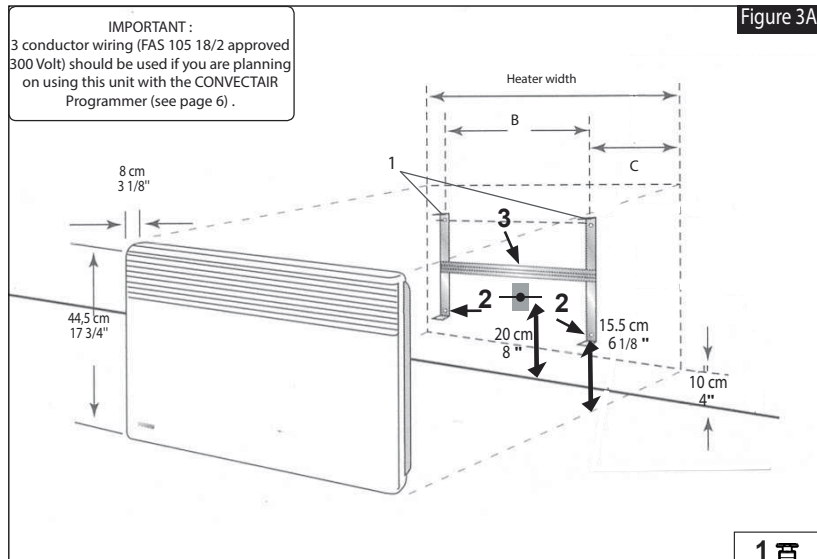

Figure 3A
**Note :** To center the heater horizontally, use the hole indicated by the number 3 Fig. 3A & 3B.
- 1- Free mounting brackets by pressing and pulling both locking brackets on the back of the heater (no. 1 Fig. 3A & 3B).
- 2- Place the center of the mounting bracket's bottom holes ( no. 2 Fig. 3A & 3B ) at 15.5 cm (6 1/8 in) from the ground and make a mark.